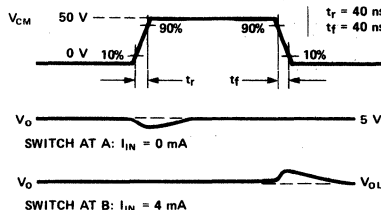

Figure 8. Test Circuit for Common Mode Transient Immunity and Typical Waveforms.
- Common mode transient immunity in Logic Low level is the maximum tolerable $dV_{\text{CM/dt}}$ of the common mode voltage, V_{CM} , to ensure that the output will remain in a Logic Low state (i.e., $V_O < 0.8\text{ V}$). See figure 8.